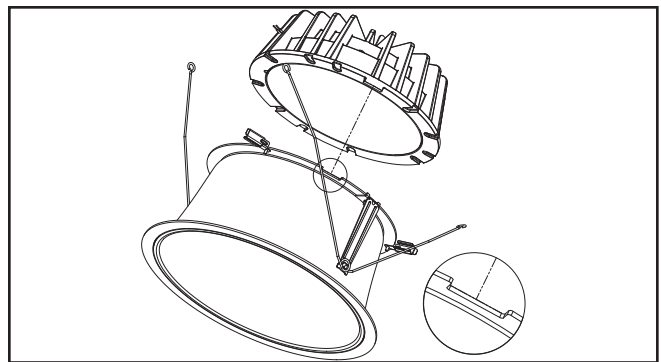

Figure 4.
2. Place LED Engine onto Lower trim. Align post on LED Engine with slot on trim assembly (Figure 4).